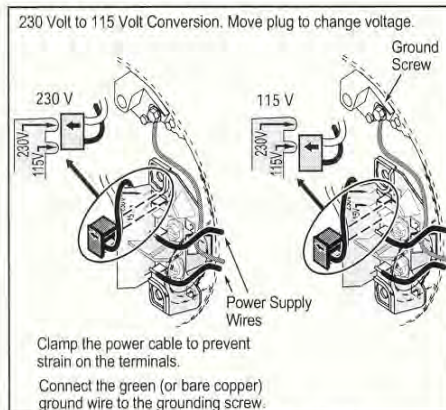

Figure 5: Motor wiring connection, Plug-in
3. Connect the green (or bare copper) ground wire to the green ground screw first (see Figure 5). Use a solid copper wire at least as large as the power supply wires.
To Convert 230 Volts to 115 Volts, Plug-in type (see Figure 5).
4. Pull the plug straight out from the terminal board, from 230 Volt socket (Figure 5).
1. Connect ground wire first. Connect the ground first, then to green grounding terminal provided under motor canopy (see Figure 5) identified as GRD. Make ground connection to this terminal. **Do not** connect motor to electrical power supply until unit is permanently grounded; otherwise serious or fatal electrical shock hazard may be caused.